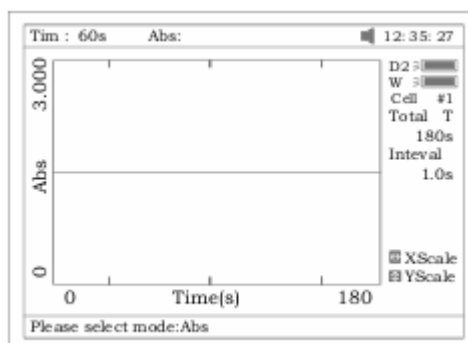

Fig.55
2. Select the test mode ("Abs" or "%T") by pressing **[F2]** (Fig 55).